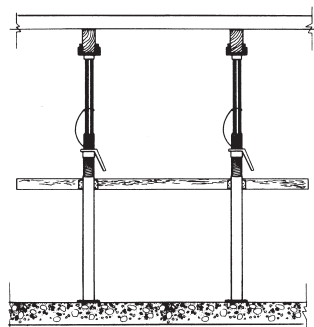

Figure 209
- With single-post shores, provide adequate lateral bracing (Figure 209). Stairwells and balconies are places where horizontal bracing for single-post shoring systems may be required.